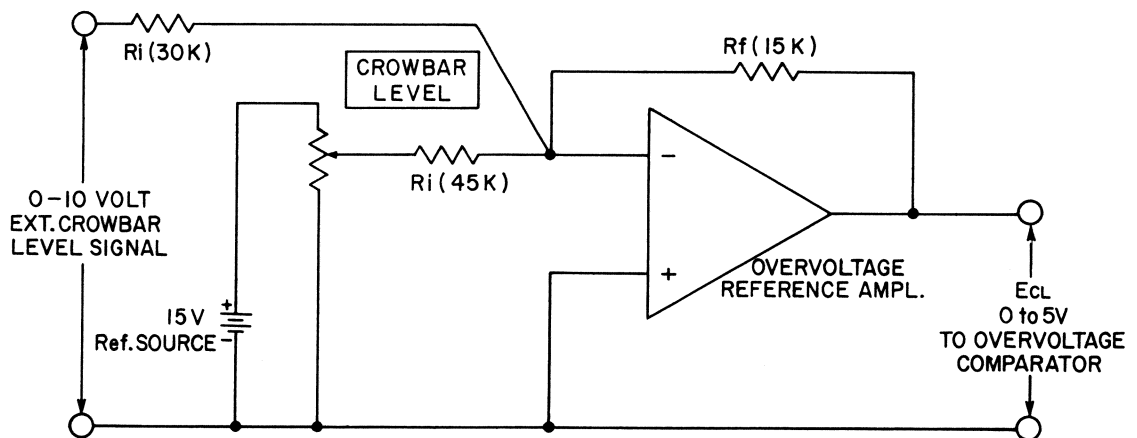

FIG. 4-5 GENERATION OF THE INTERNAL CROWBAR LEVEL SIGNAL.
- 4-14 The crowbar level may be adjusted locally by the provided CROWBAR LEVEL front panel control, or it may be externally controlled by means of a 0–10 volt d-c signal. For internal control, the crowbar level is produced by the OVERVOLTAGE REFERENCE AMPL. and the internal REFERENCE SOURCE (SEE FIG. 4-5).
- 4-15 An operational amplifier (OVERVOLTAGE REFERENCE AMPL.) is used in an inverting configuration, as shown in FIG. 4-5. The output equation for this circuit is: $E_{CL} = E_r (R_f/R_i)$. Inserting circuit values from FIG. 4-5: